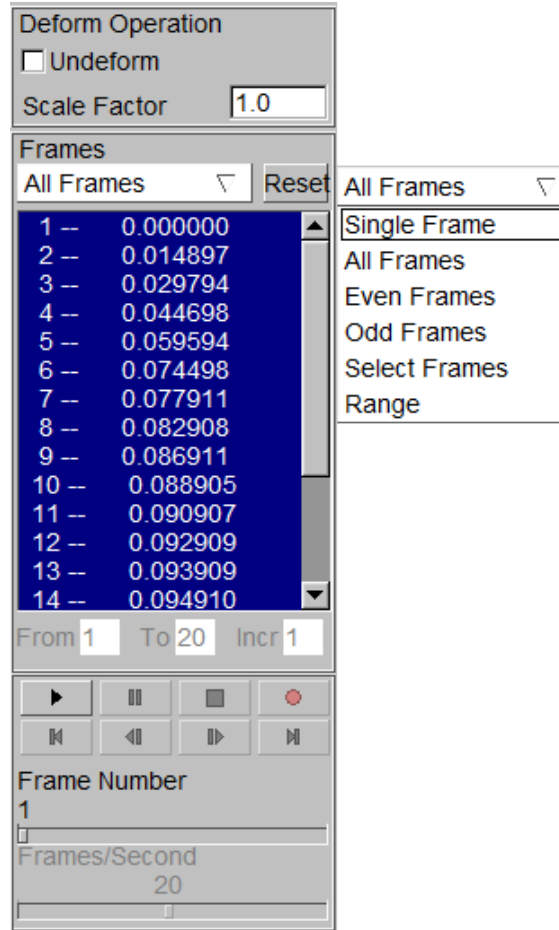

Figure 1.40 Deformation dialog box
- The default **Plot State** is **Deformation**. In the drop-down menu of **Frame**, choose **Single Frame** option, as illustrated in Figure 1.40.